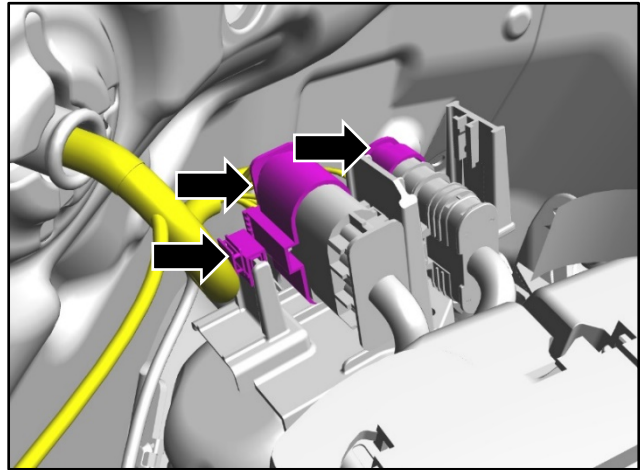

Figure 30
19. Connect the two electrical connectors and install the clip for the wiring harness (refer to Figure 30).